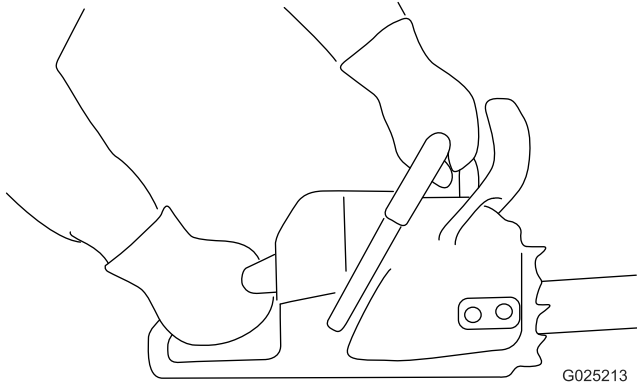

Figure 11
1. Grip the chain saw with two hands as shown in (Figure 11).
2. Grip the chain saw as shown in (Figure 11).
1. Grip the chain saw as shown in (Figure 11).